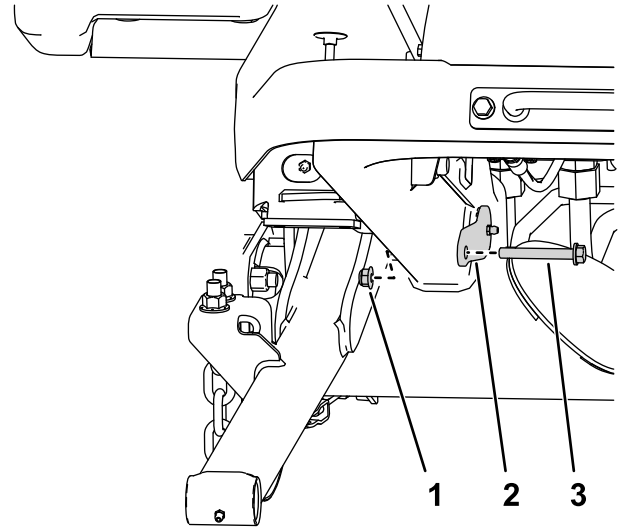

Figure 7
4. Use 2 nuts (3/8 inch) and 2 bolts (3/8 x 2-3/4 inches) to secure the large pins to the frame (Figure 7).